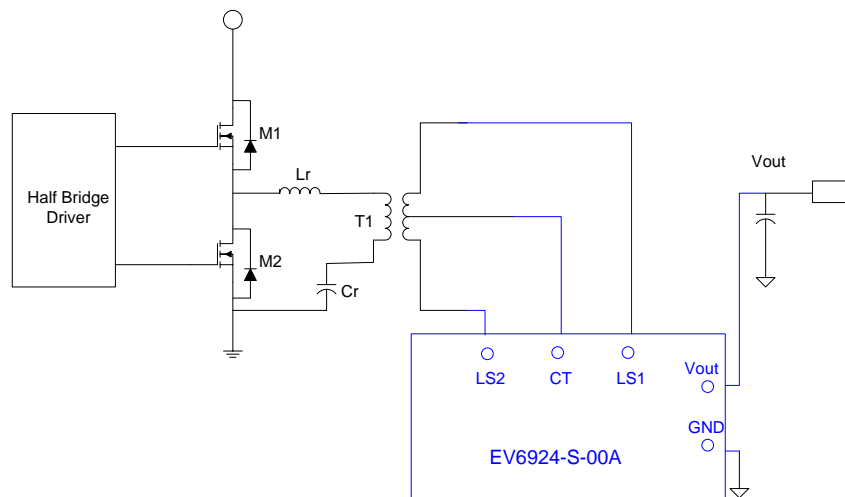

Figure 4—How to connect the EV6924-S-00A
2. Connect the center-tap and other two secondary windings of transformer as the Fig.4 shows.
3. Connect the Vout and GND pins on MP6924 demo board as the Fig. 4 shows.